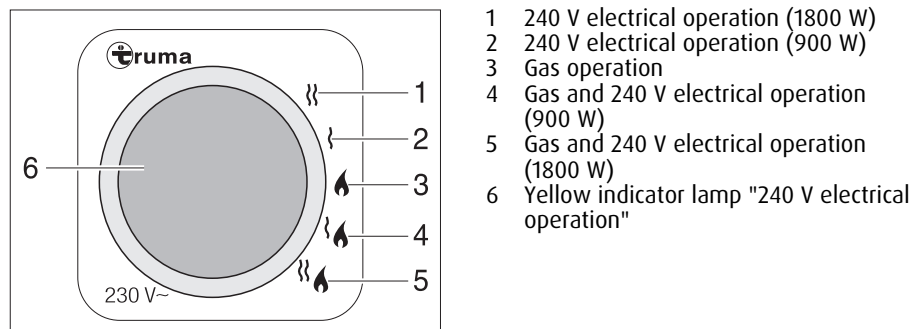

Fig. 114 Energy selector switch for heater/boiler
- Gas operation (Fig. 114,3)
- 240 V electrical operation with the output levels 900 W (Fig. 114,2) or 1800 W (Fig. 114,1)
- Gas and 240 V electrical operation (mixed operation) with the output levels 900 W (Fig. 114,4) or 1800 W (Fig. 114,5)
When 240 V electrical operation is selected, the yellow indicator lamp illuminates (Fig. 114,6).